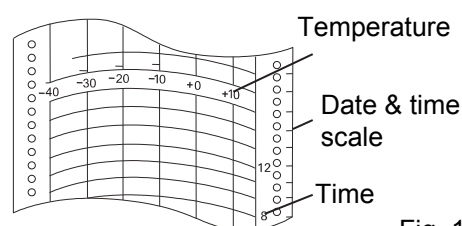

Fig. 1
This unit is provided a nickel-metal-hydride battery for the power failure alarm. The battery is located in the control box at the back of the product. (Fig. 1)
1. The information on the recording paper is shown in Fig. 1.
1. Slightly raise the end of the pen lifter and remove from the pen lifter stopper. Then rotate clockwise as shown in Fig. 1.